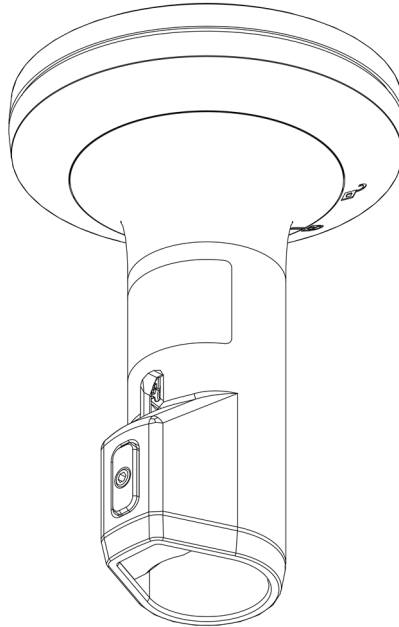

FIGURE 20: POLE MOUNT INSTALLATION STEP 3 (MAKE A RECORD OF THE UNIT SERIAL NUMBER)
Step 3: Unpack the LT-300 GNSS Receiver and make a record of the unit serial number for support or warranty issues that could occur in the future. The unit serial number label is fixed on the pole mount as illustrated in Figure 20.